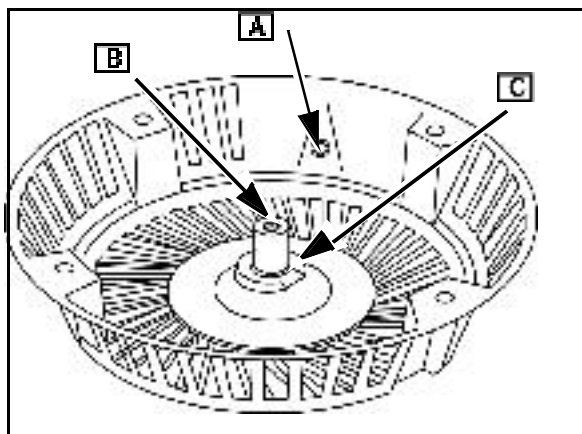

Fig. 15
2. Inspect starter housing eyelet (A), center pivot post (B) and inner spring retainer ([C] Fig. 15). Replace housing assembly if worn or damaged.